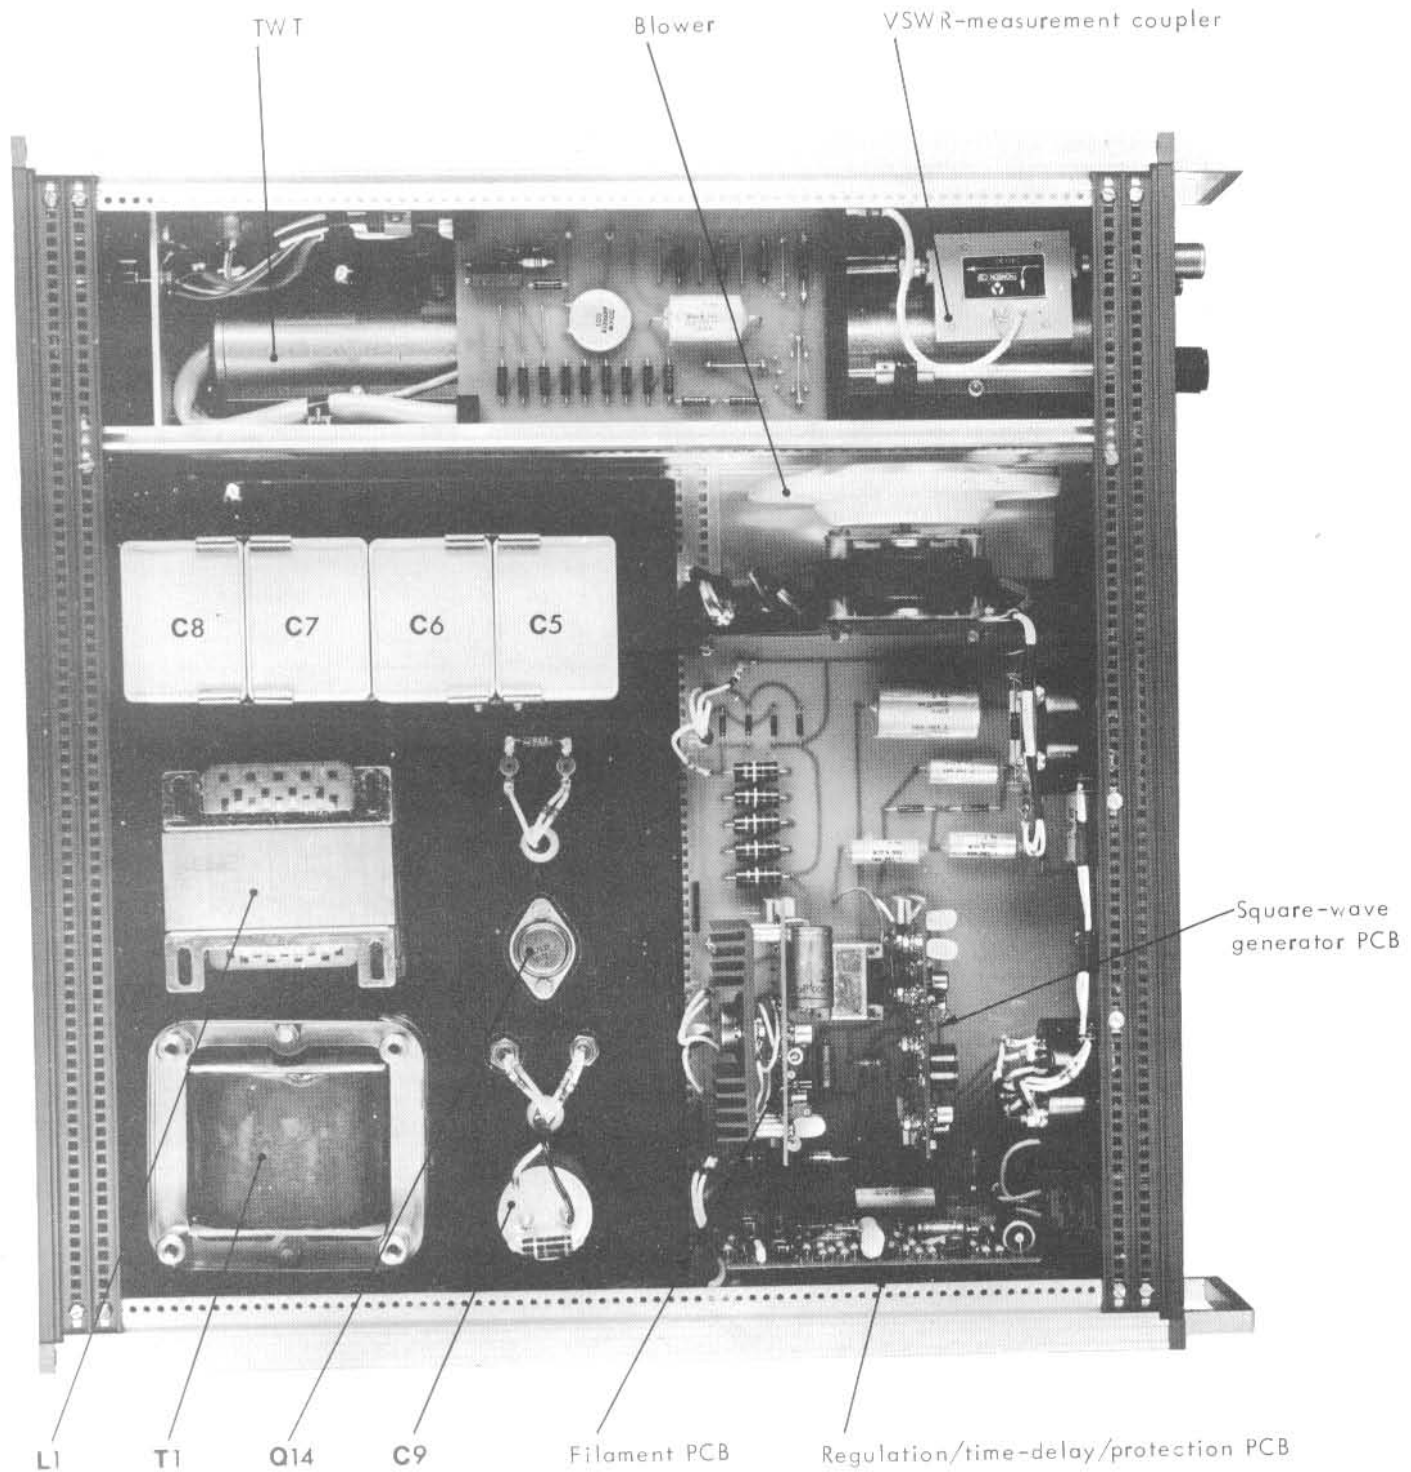

Figure 8 - Top view of the interior of an ALT 1410 power-supply/support unit.
- 1) The low-voltage helix regulation is malfunctioning. Check transistors Q14, Q15, Q16 and Q17 (see Figures 8, 9 and 10).